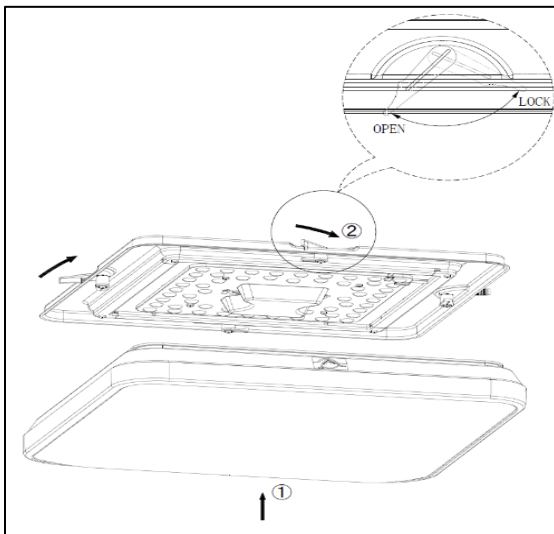

Figure 11
7. Secure the 2 screws with Phillips screwdriver (See *Figure 11*).